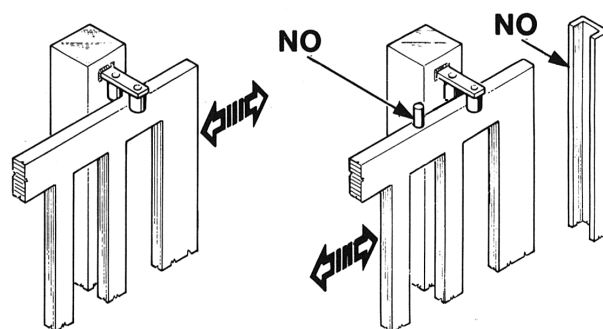

FIG. 3
N.B: Eliminate those mechanical stops of the kind described by figure 3. No mechanical stop shall be on top of the gate, since mechanical stops are not safe enough.